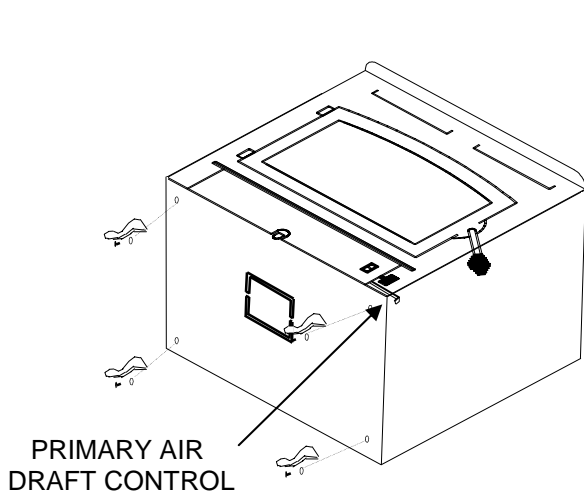

Figure 5
3. Check primary air draft control to ensure that it slides freely.(See Figure 5).
5. **(Leg Kit):** If legs are to be used, obtain four legs, attach legs to holes in bottom of unit with bolts and washers supplied with the leg kit. (See Figure 5).